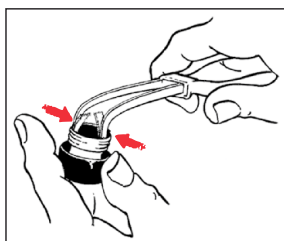

Fig. 1
1. To reduce the spring pressure slightly push both parts of the spring together (see Fig. 1). The tips of the pliers must be inserted between the inside wall of the baton ending and each part of the spring.